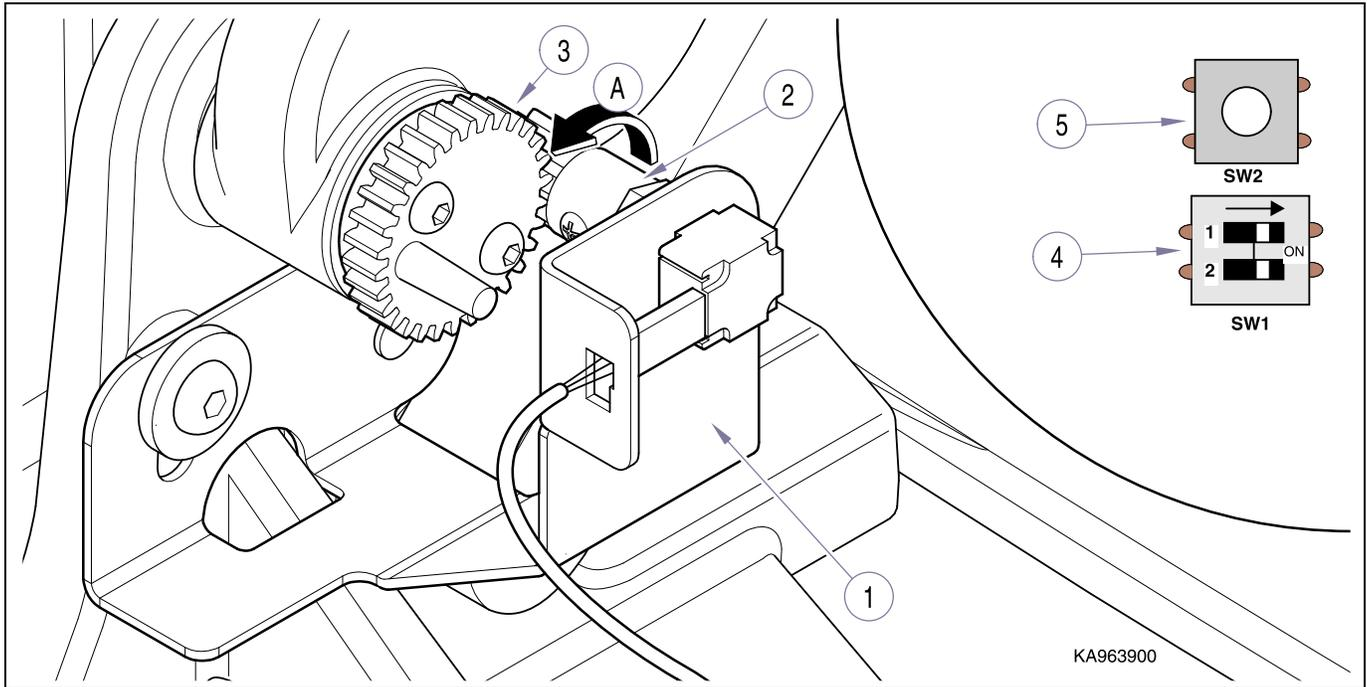

Figure 4-20. Base Potentiometer.
- (1) Loosen mounting screws on lower sensor bracket (1, Fig. 4-20) and rotate bracket so pinion gear (2) is disengaged from drive gear (3).
- (2) Rotate pinion gear (2) on potentiometer shaft **counter-clockwise** (A), viewed from back of potentiometer, until it stops, aligning teeth on pinion with teeth on drive gear (3)
- (3) Turn the pinion gear (2) **back, (clockwise)** two teeth and align with drive gear (3).
- (4) Tighten mounting screws.
- (5) Unplug chair power cord. Place SW1 switches (4), on P.C. board, both in **ON** position.
- (6) Plug in chair power cord. Press Calibration button (5).